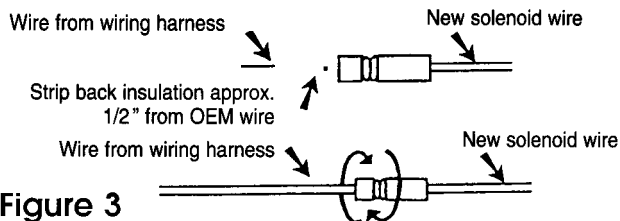

Figure 3
6. Strip back lead wires cut from the old solenoid and original solenoid harness approximately 1/2" and twist braided wire to form a tight strand. Loosen the Posi-Lock™ Connectors. Insert the bare wire into the connector until it bottoms out. Tighten the connector. Repeat this procedure for all of the connections (**Figure 3**).